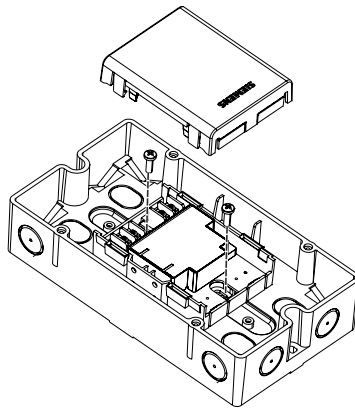

Fig. 3
- Installation outside a switching cabinet or a control unit: use FDCH221 housing (Fig. 3).
3. Use two screws (M 4) to fit the housing on a plane surface (Fig. 3). Distance between holes: $182.0 \pm 1.0\text{mm}$.
2. Fix module with two screws in the housing (Fig. 3).